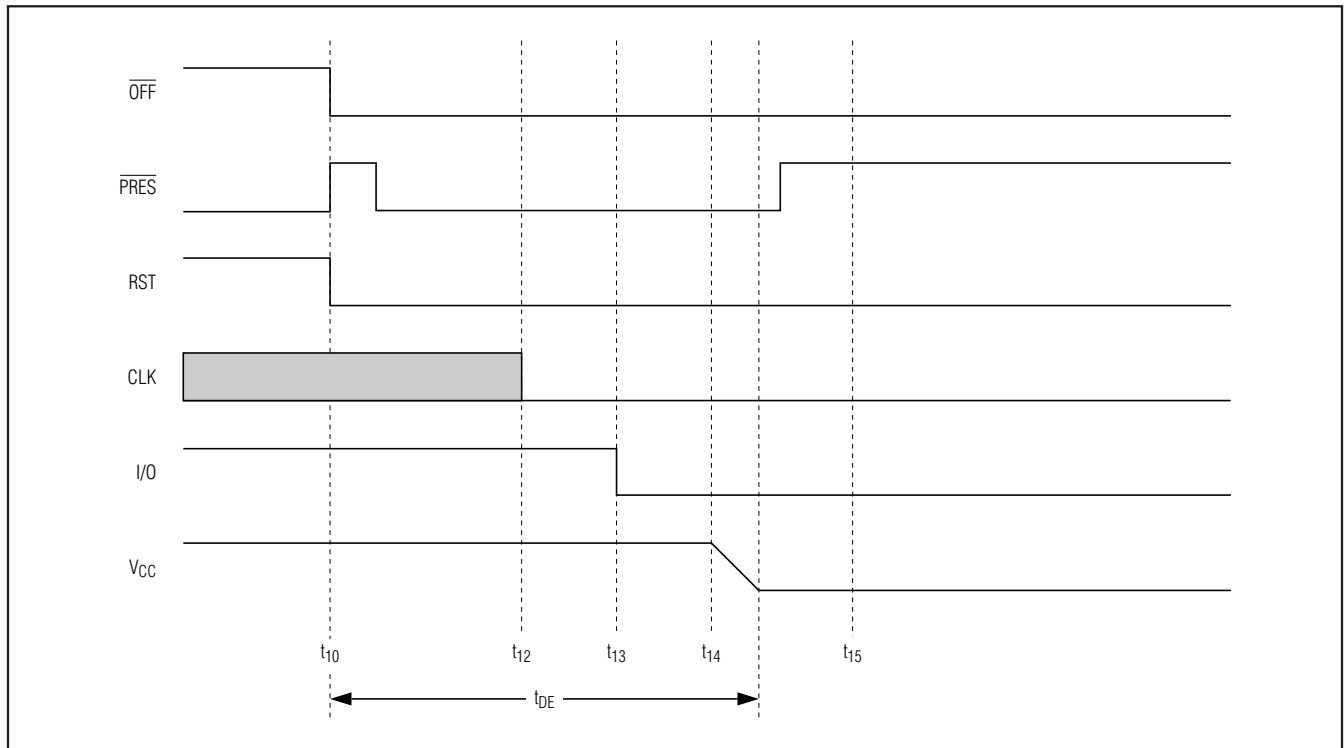

Figure 7. Emergency Deactivation Sequence (Card Extraction)
The DS8024 crystal oscillator runs when the device is powered up. If the crystal oscillator is used or the clock pulse on pin XTAL1 is permanent, the clock pulse is applied to the card at time t_4 (see Figures 7 and 8). If the signal applied to XTAL1 is controlled by the host microcontroller, the clock pulse is applied to the card when it is sent by the system microcontroller (after completion of the activation sequence).
- **Within a Card Session ($\overline{\text{CMDVCC}}$ Low).** Output $\overline{\text{OFF}}$ goes low when a fault condition is detected, and an emergency deactivation is performed automatically (Figure 7). When the system controller resets $\overline{\text{CMDVCC}}$ to high, it may sense the $\overline{\text{OFF}}$ level again after completing the deactivation sequence. This distinguishes between a card extraction and a hardware problem ($\overline{\text{OFF}}$ goes high again if a card is present). Depending on the connector's card-present switch (normally closed or normally open) and the mechanical characteristics of the switch, bouncing can occur on the PRES signals at card insertion or withdrawal.